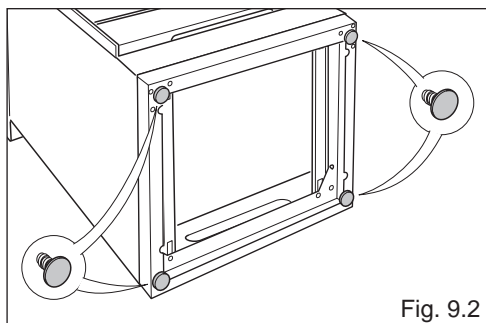

Fig. 9.2
- Place the cooker on its back as shown in the figure 9.2.